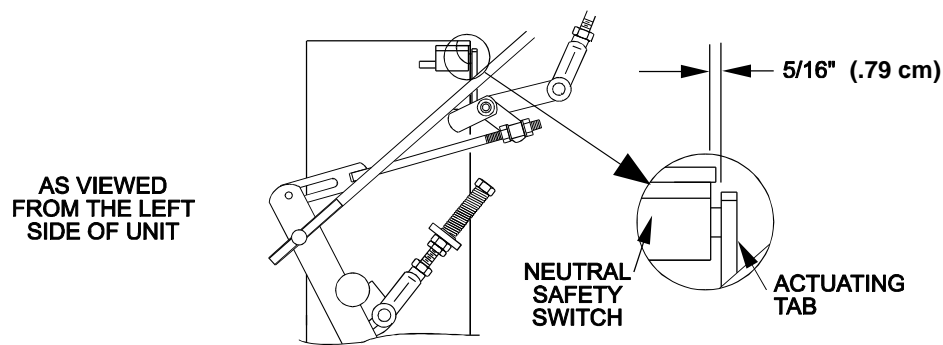

FIGURE 17
3. Pull the speed control lever back to neutral. Check that the neutral safety switch actuating tab has depressed the plunger of the switch so that there is about 5/16\" (.79 cm) between the tab and the switch. See Figure 17. If necessary, move the switch fore and aft.